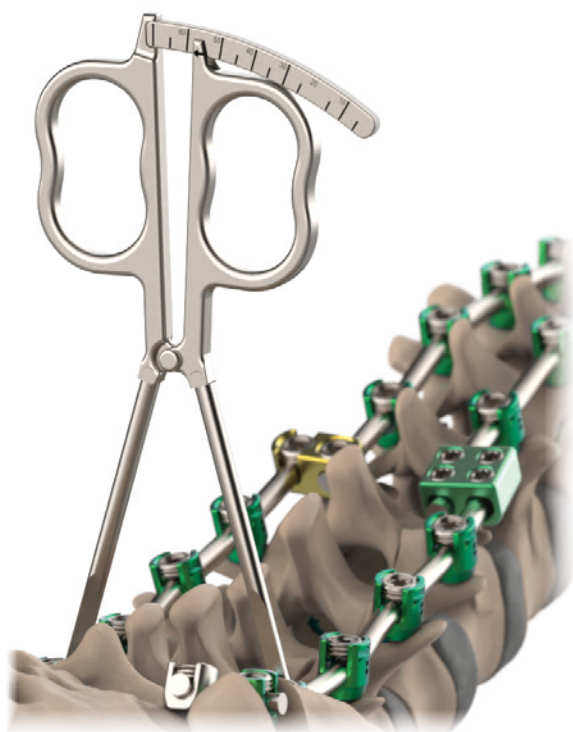

Figure 5.1
1. To determine the appropriate length CrossLynxx Connector, utilize the CrossLynxx Measuring Caliper by placing the distal tips of the instrument on the left and right Spinal Rods at the appropriate levels (Figure 5.1). Care should be taken to ensure that the available exposed rod provides enough spacing for the width of the implant.